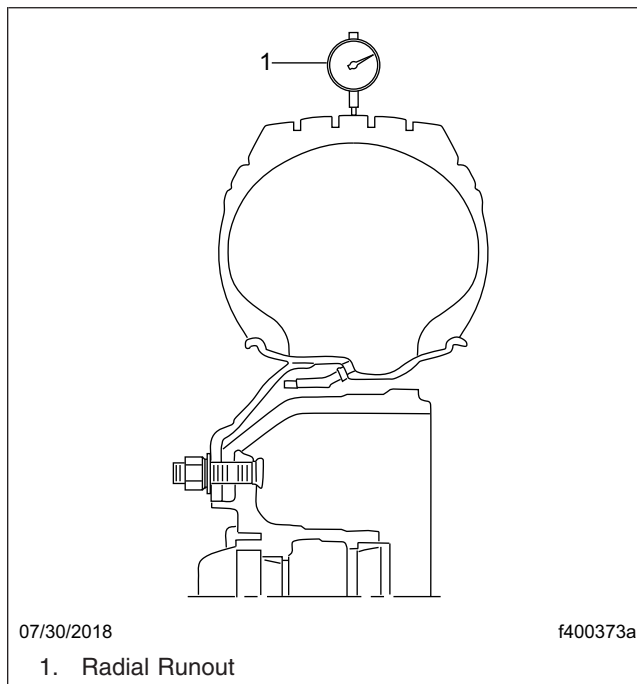

Fig. 10, Radial Runout Check for Tires
4. Beginning with the right-front wheel, use a tire runout gauge to check the radial runout. See Fig. 10. Write down the measurement for later use to avoid vibration complaints.